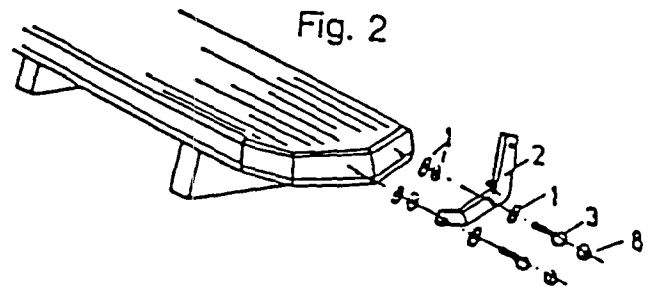

Fig. 2
Then screw the arms (2) with enclosed large U-disc (1) and hexagon screws (3) to the bench unit (Figure 2).